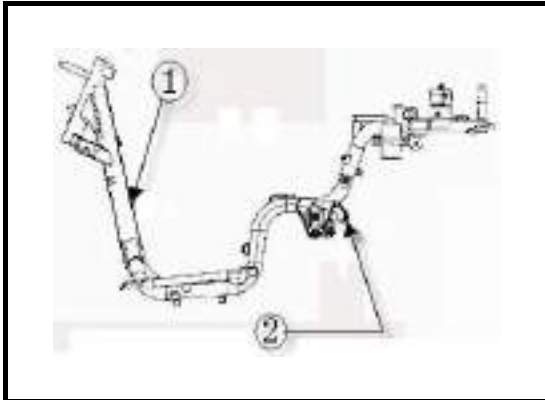

Fig. 1-1
1. The identification number of motorcycle frame is marked at □: *LBBB4900?8B?????*. The 9th digital, 10 digital and 11th digital respectively indicate inspection code, year and supplier code. There are 17-digital in total. The frame sign is nailed at □. See Fig. 1-1.